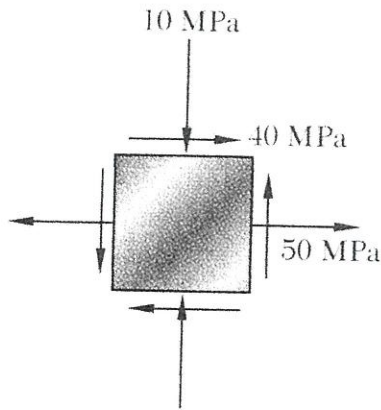

Figure Q2(a)
- Q2** (a) The state of plane stress at a point on a body is shown on the element in the **Figure Q2(a)**. Analyse: